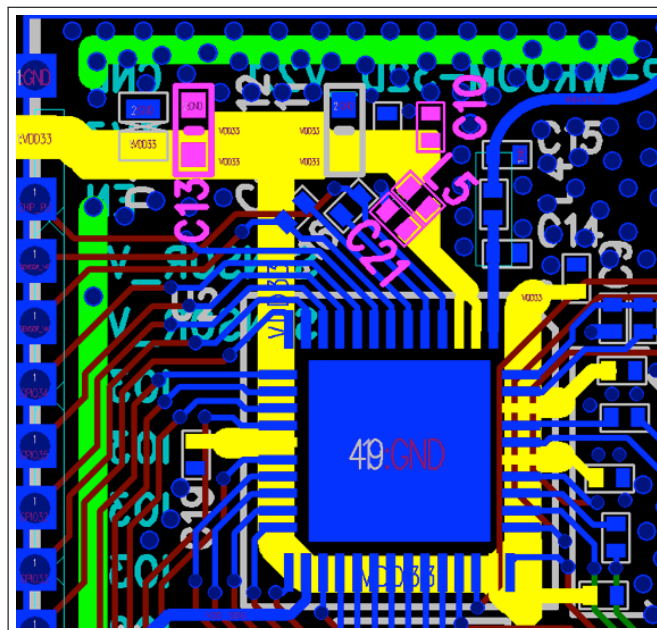

Figure 14: ESP32 Power Traces in a Four-layer PCB Design
- The 3.3 V power traces, highlighted in yellow, are routed as shown in Figure 14. The width of the main power traces should be greater than 25 mil. The width of the power traces for pin3 and pin4 should be at least 20 mil. The width of other power traces should be within the range of 12 ~ 15 mil.
- As shown in Figure 14, an ESD protection diode is placed close to the power port (marked in red circle). A 10 μ F capacitor is required before the power trace connects the ESP32 chip, to be used in conjunction with a 0.1 μ F capacitor. Then the power routing is divided into two ways. The power rails of pin3 and pin4 should be routed together to reduce the coupling between different power pins.
- It is required to place C (capacitor) and L (inductor) near the power pins pin3 and pin4. As shown in Figure 14, C13 (10 μ F) is placed at the entrance of the power, and C10, L5, and C21 are placed near the chip's analog power pins. When possible, add a 0.1 μ F capacitor to each digital power supply pin. Note that all decoupling capacitors should be placed close to the power pin, and ground vias should be added adjacent to the ground pin for the decoupling capacitors to ensure a short return path.